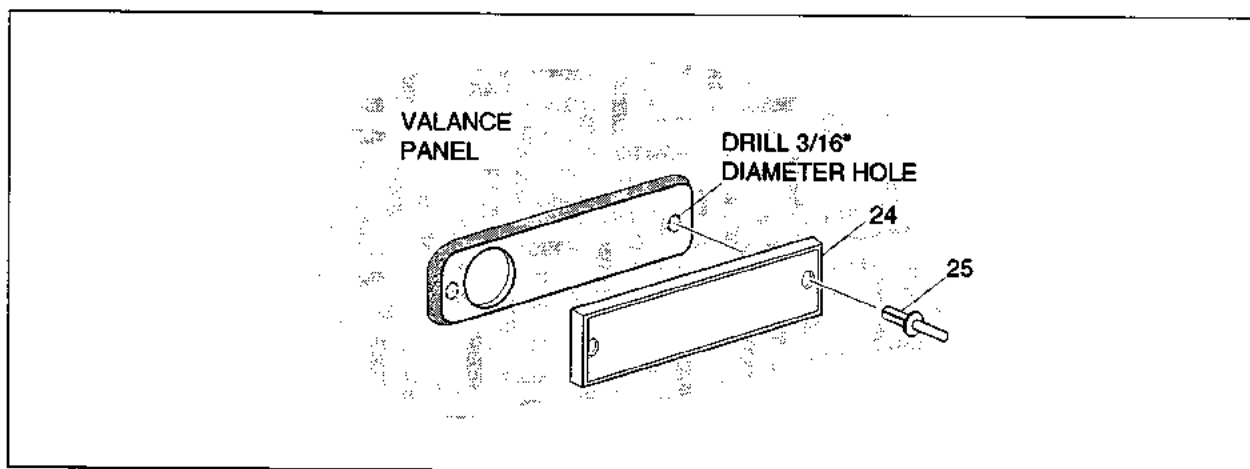

Fig. 6
12. Attach reflectors (item 24) using adhesive backing, covering bolt access holes completely. Drill four 3/16" diameter holes in valance using the holes in reflectors as guides. (See Fig. 6)
13. Secure the reflectors with plastic rivets (item 25). (See Fig. 6)